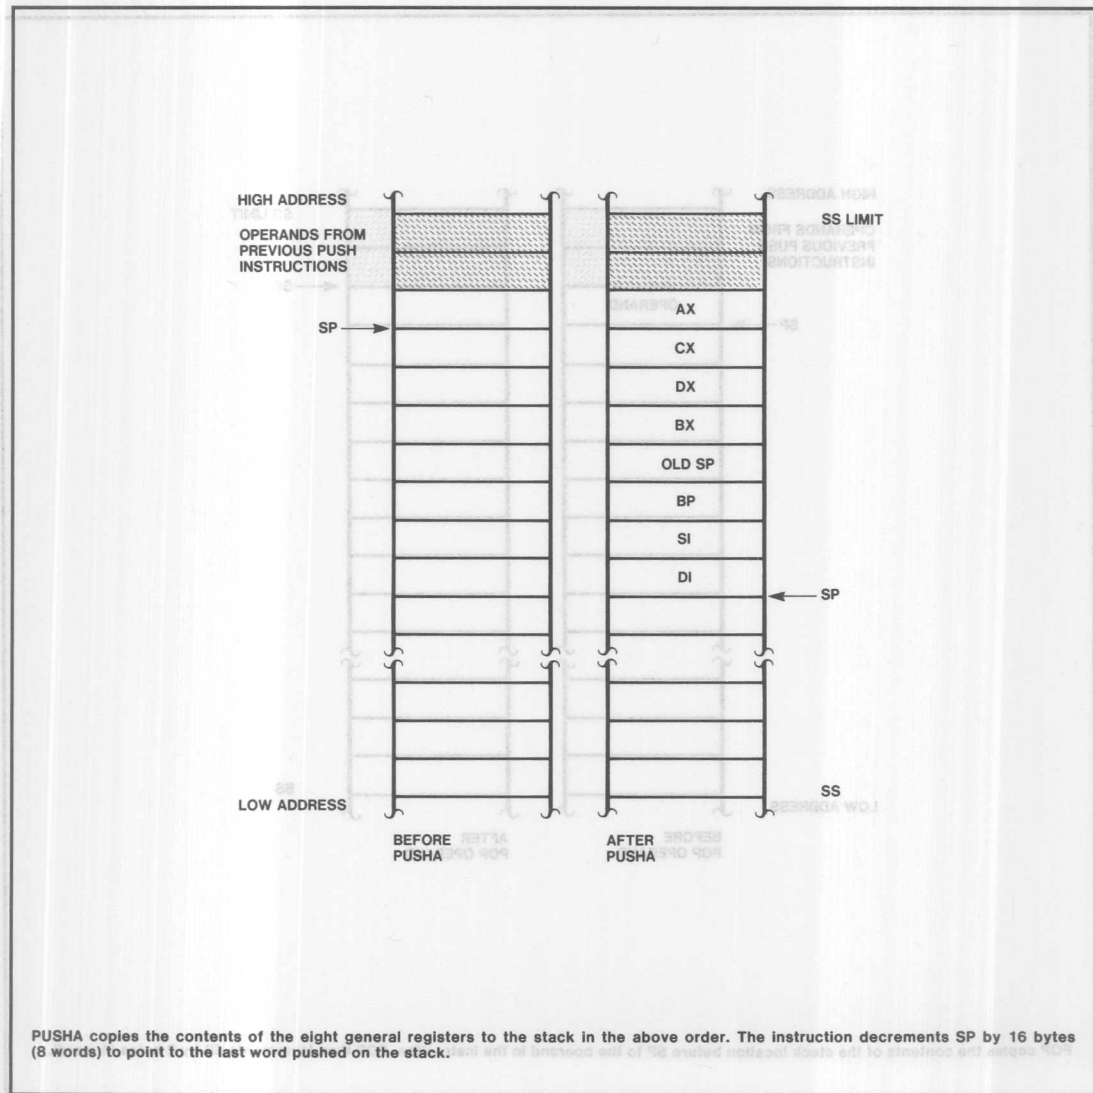

Figure 3-2. *PUSHA*
*PUSHA (Push All Registers)* saves the contents of the eight general registers on the stack. See figure 3-2. This instruction simplifies procedure calls by reducing the number of instructions required to retain the contents of the general registers for use in a procedure. *PUSHA* is complemented by *POPA* (see below).